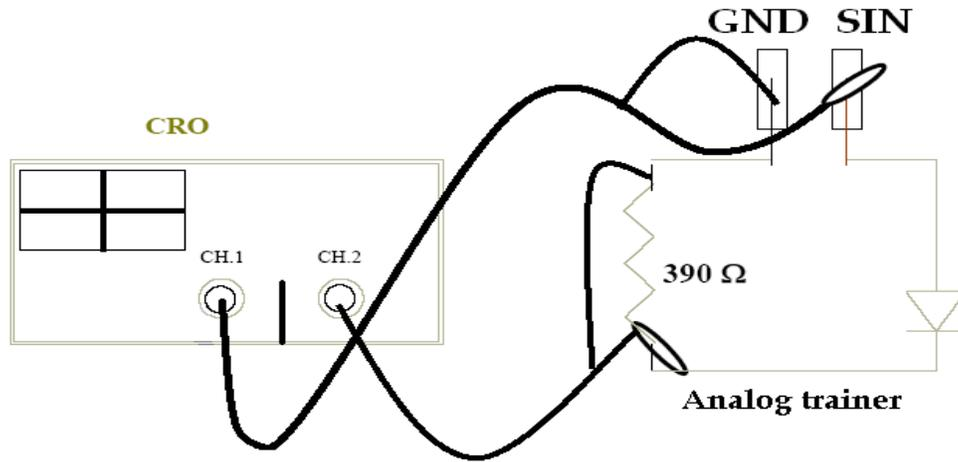

Figure 3. Connecting CRO to AC circuit with diode.
From the previous experiment you have identified the diode, and you know that if a diode is connected to a circuit with a DC power supply and your diode is in a forward biasing then there will be a current passing through the circuit, but if the diode is in a reversed biasing then there will be no current. In this part of the experiment we will use the channels of the CRO to investigate the behavior of the voltage across a resistor in an AC circuit that includes a diode as compared to the voltage of the AC power supply in this circuit. Refer to Figure 3.
- 1) **Connect** the probe to the Channel-1 of the CRO to the analog trainer as shown in Figure 3 below and switch it on.
- 1) **Connect** the CRO to the circuit shown in **Figure 3**. (make sure that you **connect** CH-1 of the CRO to the AC power supply and CH-2 across the resistor as illustrated in the Figure).